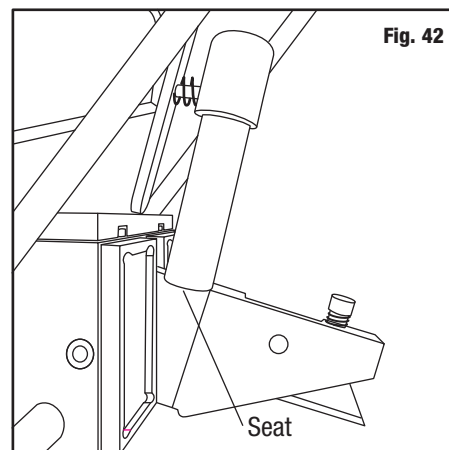

Fig. 42
3. Pull back and push down on cutting tool handle into seat (Fig. 42).